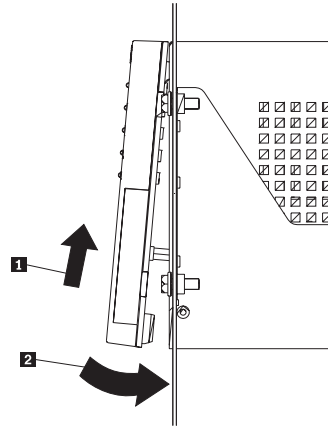

Figure 9. Replacing the controller-unit bezel on models 3526 and 3552
5. To replace the bezel on machine types 3526 and 3552, slide the top edge under the lip on the chassis **1**; then push the bezel bottom until the pins snap into the mounting holes **2**, as shown in Figure 9 on page 20.